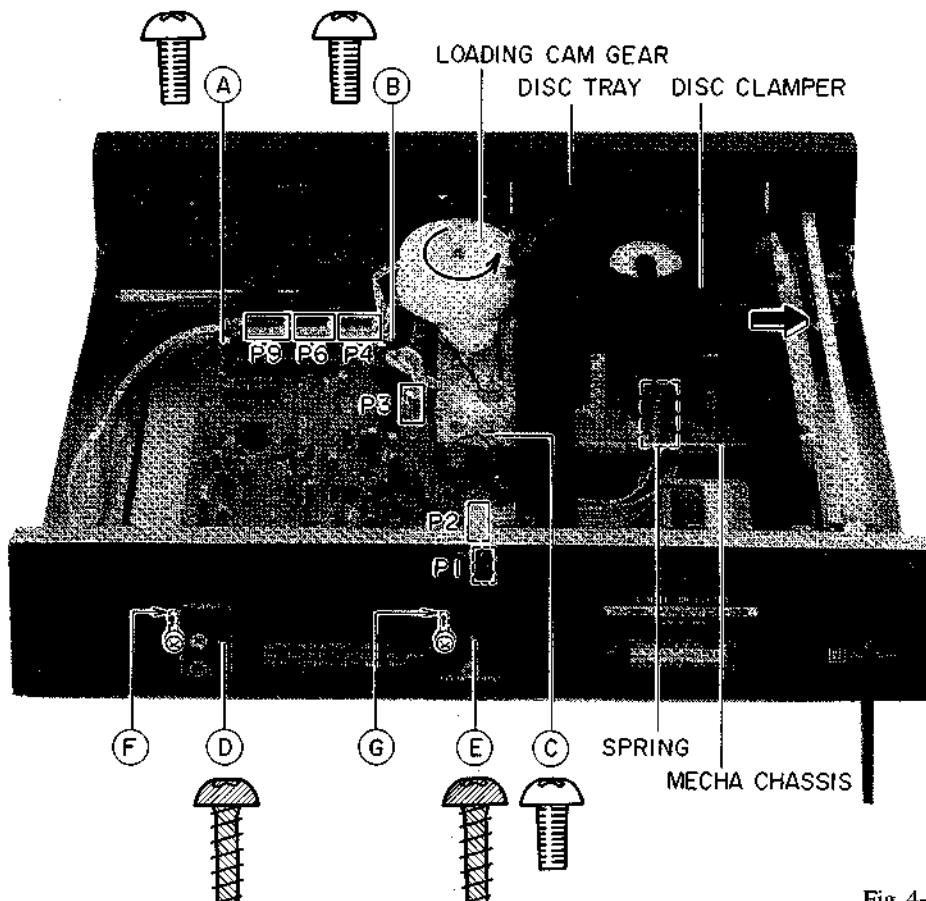

Fig. 4-1
- 2) Remove the MAIN PCB fixing screws Ⓐ, Ⓑ, Ⓒ, Ⓓ and Ⓔ, also resolder Ⓕ and Ⓖ, then remove the MAIN PCB. (Refer to Fig. 4-1)
* Reassemble in reverse order. (Refer to Fig. 4-1)